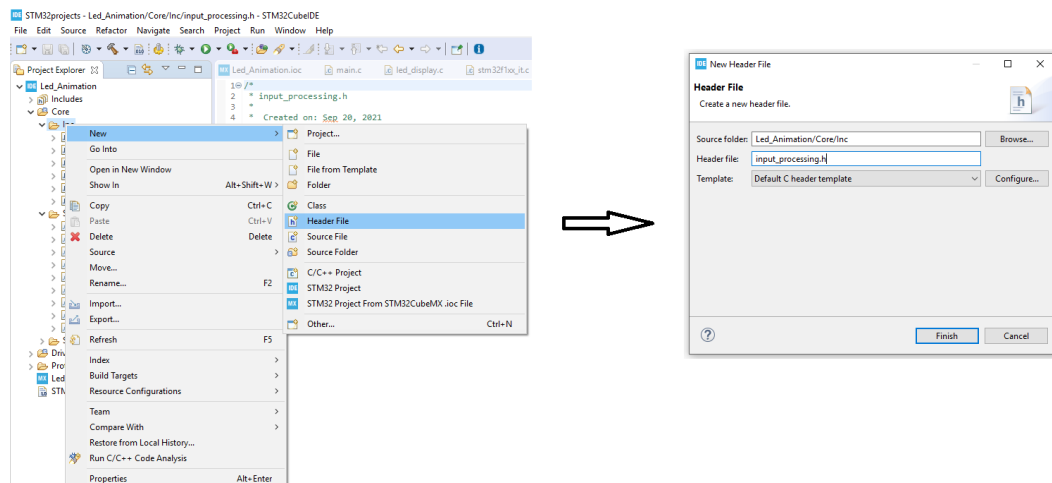

Figure 1.8: Step 2: Create a C header file for input processing
Step 2 (Figure 1.8): Do the same for the C header file in the folder **Inc**.